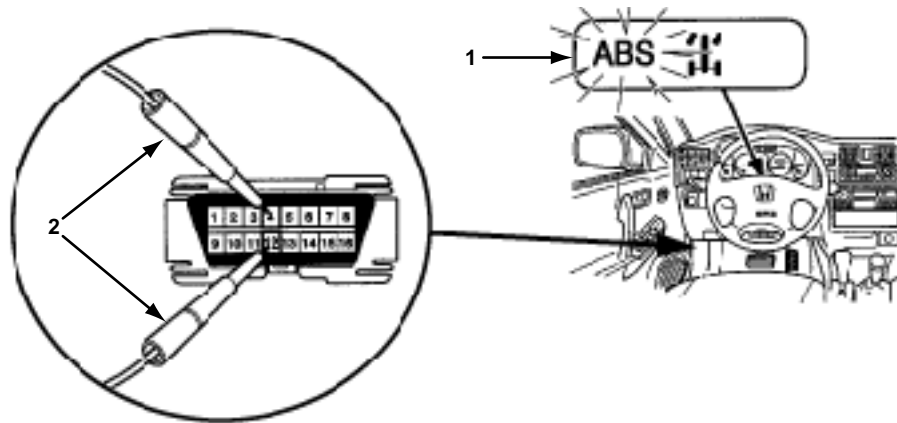

Figure 8-34 1996–2002 Passport with 4WAL system
1. With the ignition off, jump pins 4 and 12 of the 16-pin DLC (Figure 8-34).